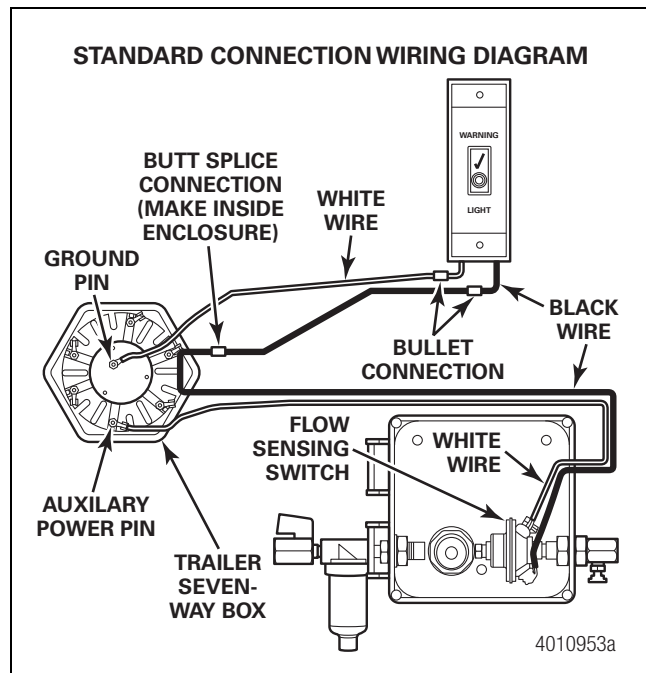

Figure 2.67
8. In the trailer seven-way box, connect the supplied eye connectors to the white wires, one coming from the warning light and one coming from the control box. Figure 2.67.